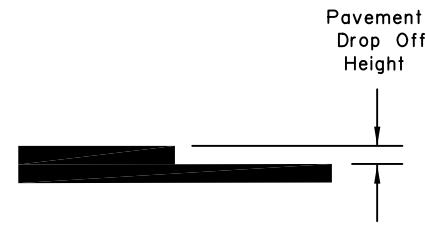

FIGURE 3
- Use a Safety Edge for longitudinal or diagonal pavement edge drop-offs more than 2 inches within a traveled lane. See Figure 3. Use a Safety Edge on longitudinal joints between lanes as required by Table 3a.